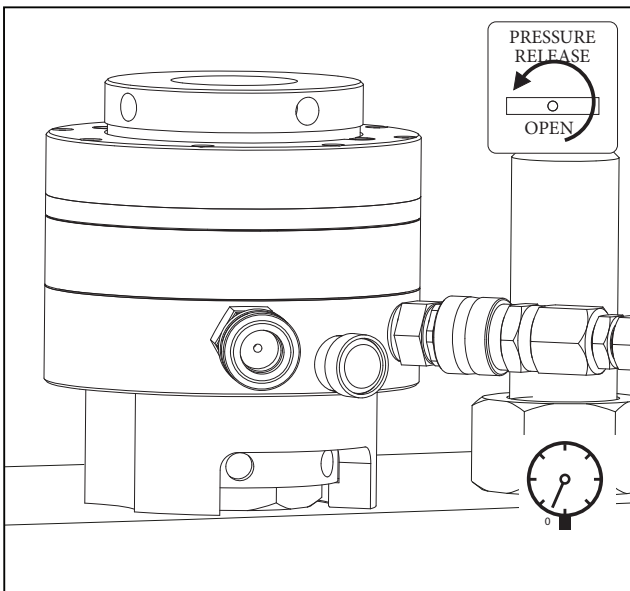

FIGURE 10, PRESSURE RELEASED AFTER TURNING DOWN NUT
9. Release the hydraulic pressure by SLOWLY opening the pump pressure release (return to tank) valve. Verify that the oil pressure gauge indicates zero (0) psi/bar. See Figure 10.
10. Release the hydraulic pressure by SLOWLY opening the pump pressure release (return to tank) valve. Verify that the oil pressure gauge indicates zero (0) psi/bar. See Figure 10.
21. Release the hydraulic pressure by SLOWLY opening the pump pressure release (return to tank) valve. Verify that the oil pressure gauge indicates zero (0) psi/bar. See Figure 10.